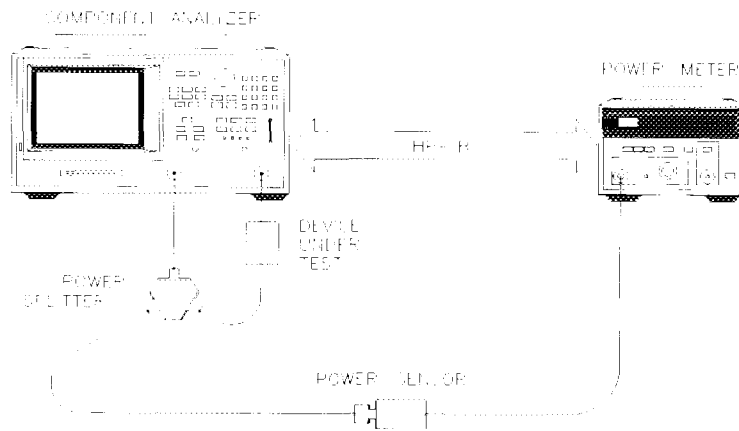

Figure 13-8. Continuous Correction Mode for Power Meter Calibration
You can set the analyzer to update the correction table at each sweep (as in a leveling application), using the continuous sample mode. When the analyzer is in this mode, it continuously checks power at every point in each sweep. You must keep the power meter connected as shown in Figure 13-8. This mode is also known as power meter leveling, and the speed is limited by the power meter.
- 1** Connect a power splitter or directional coupler to the RF power that you are applying to your test device, as shown in Figure 13-8